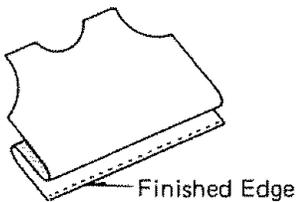

Fig. 2
Fig. 1 shows the raw edge finished. Fig. 2 illustrates the folded edge stitched.
2. Fold garment away from hem leaving 1/8" of hem edge extending. (Fig. 2)